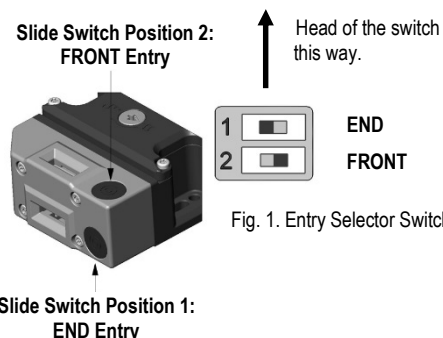

Fig. 1. Entry Selector Switch
- M5 (or appropriate) mounting bolts must be used to fix the switch and actuator mounting plates. The tightening torque to ensure reliable fixing is 4.0 Nm. Tightening torque for the lid screws and cable glands must be 1.5 Nm to ensure the IP seal. The actuator entry position (Front or End) can be selected by using the internal slide switch inside the switch cover (See Fig.1 on page 2). Do not mount adjacent switches or actuators closer than 100mm.
Select Front or End sensing. (See Fig 1)